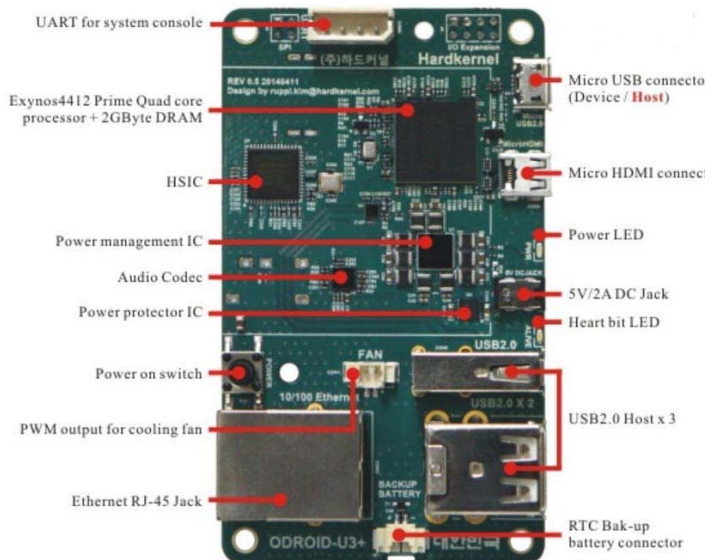

Figure 4 – The top side of the ODROID U3 board.
- Before power-up, attach a USB hub into the "vertical USB jack" with mouse and keyboard attached in the hub (see **Figure 4** for location of USB jacks). Powered USB-hubs will probably work best.
- Before power-up, connect a micro-HDMI between ODROID (see **Figure 4**, right-side) and a HDMI display screen.
- Before power-up, attach an ethernet connector (see **Figure 4** for location of RJ-45 jack) or install a USB-based WiFi dongle into the hub. I purchased a power-hog Cisco WiFi USB-unit from HardKernel. But, I prefer to use the tiny WiFi unit purchased from Raspberry Pi. It is tiny, less power, and does not seem to be sensitive to software-failure-by-slight-physical-movements as the Cisco unit.
- There is a small "Heart Beat" LED on the top of the ODROID (see right-side of **Figure 4**). It will initially glow a "dim blue" and then change to blinking "bright blue" while the Lubuntu is booting. If the LED does not glow, check that you have inserted the micro-SDI with Lubuntu properly.